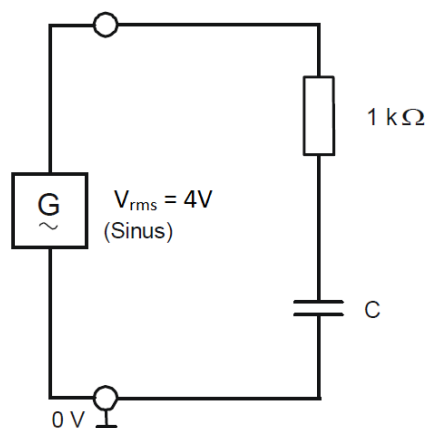

Figure 8
- 7) Connect the circuit as shown in **Figure 8**